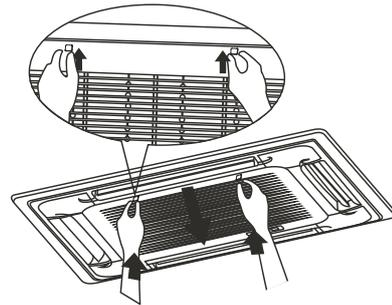
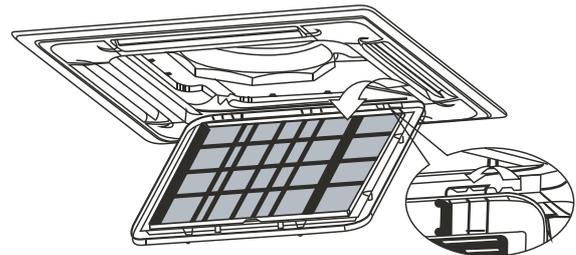

Figure 14.1
Figure 14.2
- ◆ Push the grille switches simultaneously, as indicated in Fig.14.1. Then pull down the air intake grille (together with the air filter, as shown in Fig.14.2). Pull the air intake grille down to 45°, and lift it up to remove the grille.